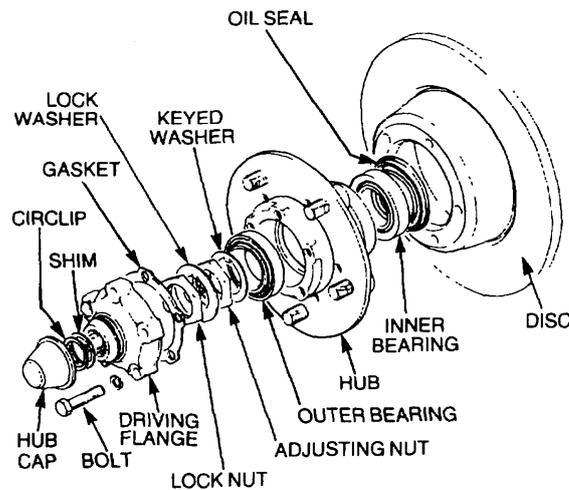

Figure 108 Front Hub and Disc Exploded View
- i. Remove the circlip from the drive shaft and remove the shim (Figure 108).